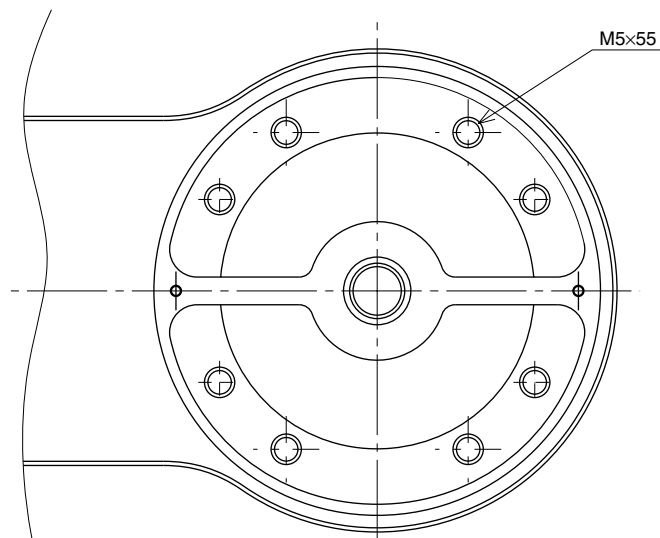
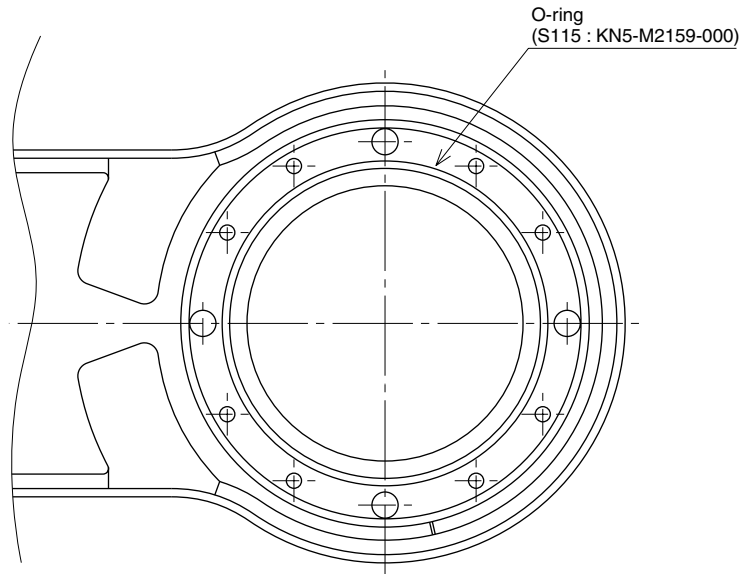

Fig. 5-37
Fig. 5-38
- 10) Remove the X-axis arm installation bolts (M5×55L, 8 pieces). (See Fig. 5-37.)
AN O-RING IS FITTED TO THE X-AXIS ARM, SO BE CAREFUL NOT TO LET IT DROP INTO THE PERIPHERAL UNIT. (SEE FIG. 5-38.)
- 16) Fit a new O-ring into the O-ring groove on the X-axis arm and secure it to the harmonic drive. Then apply small amounts of “Screw Lock” to the bolts (M5×55L, 8 pieces) you removed earlier and tighten them uniformly to secure the X-axis arm. (See Fig. 5-37 and Fig. 5-38.)